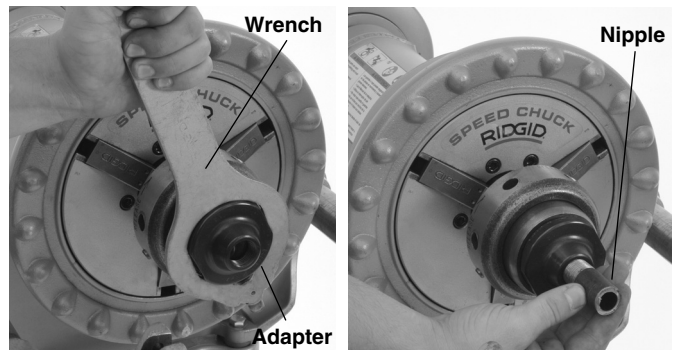

Figure 3 – Installing Nipple Chuck Adapter and Nipple
8. Install the proper size pipe adapter and tighten with the wrench (*Figure 3*). Remove wrench.